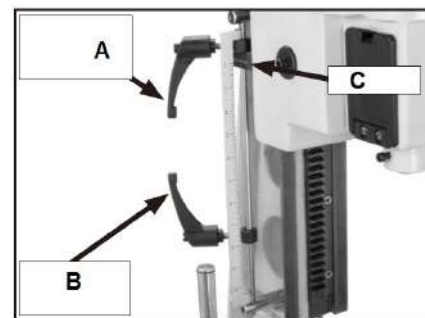

Fig 6
To adjust the depth stop (Fig 6):
2. Tighten the lower depth stop against the bottom of the stop plate(C Fig 6).